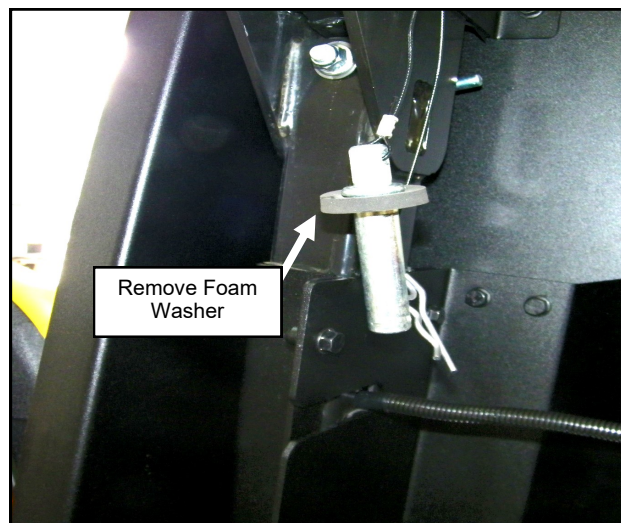

Fig. 4.2 (Remove ROPS Pin)
- 4.2** Remove the left ROPS pin and remove the foam washer. The foam washer will not be re-used. See Figure 4.2.